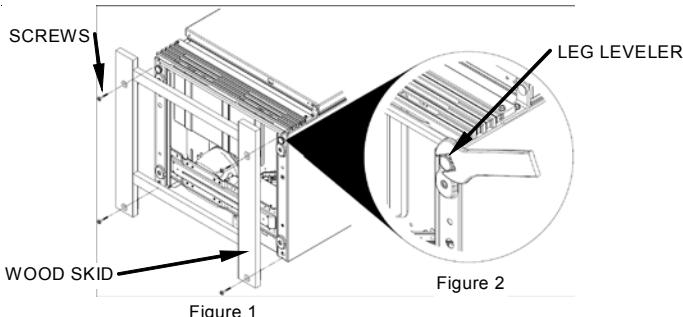

Figure 2
- Using a large adjustable wrench, remove and discard the two (2) black plastic leg levelers by turning it counterclockwise (see Fig. 2).